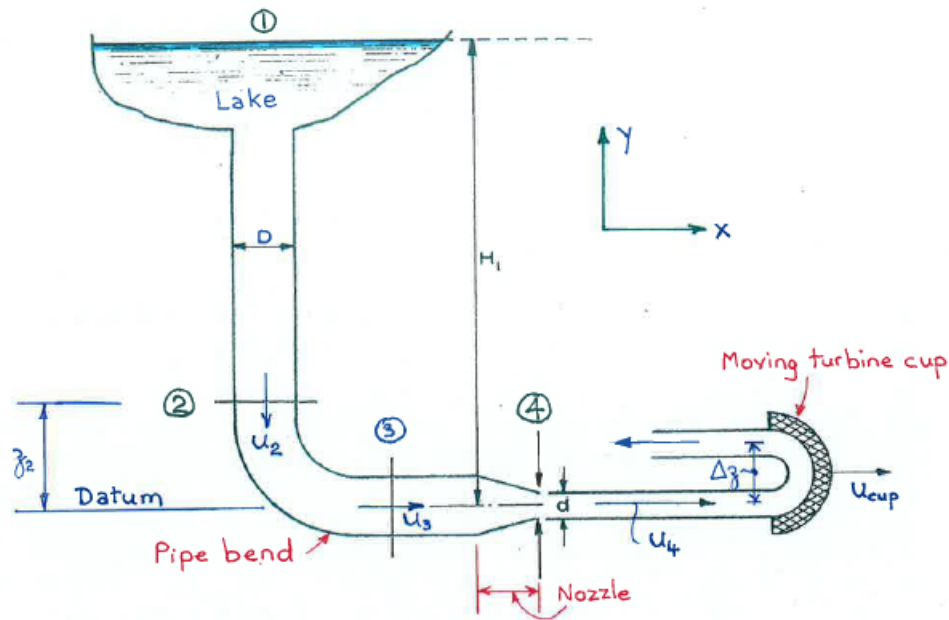

Figure 5: Main elements of a hydro-power scheme.
Although highly simplified, Figure 5 depicts the main components of a hydro-power scheme. Water stored in a large elevated lake (elevation H_1 above the datum) flows down a pipe (diameter D) capable of withstanding very high pressures, around a bend, through a nozzle (end diameter d) after which it is discharged as a jet into the atmosphere and impacts one of the cups (moving with a linear velocity u_{cup}) of a turbine. Sections ① to ④ are indicated in Figure 5. The velocities (u_2 , u_3 , u_4) at various locations in the hydro-power scheme are indicated in Figure 5. This diagram will serve the basis for the questions which follow.